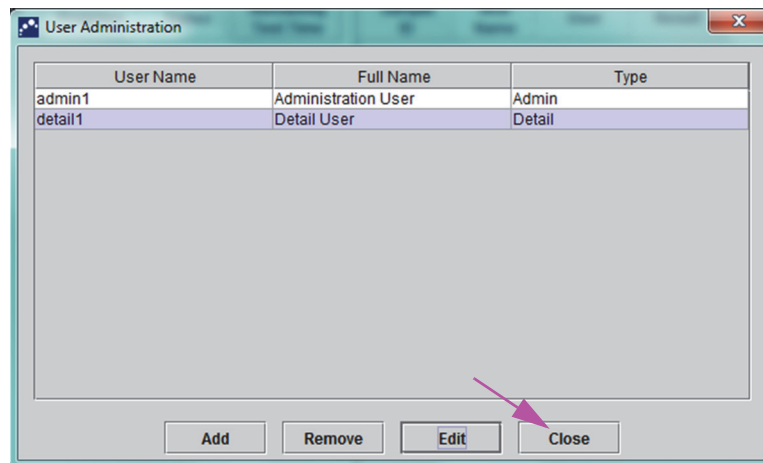

Figure 2-38. User Admin Dialog Box after User Removal
3. Click **Remove**. The user is removed. See Figure 2-38.